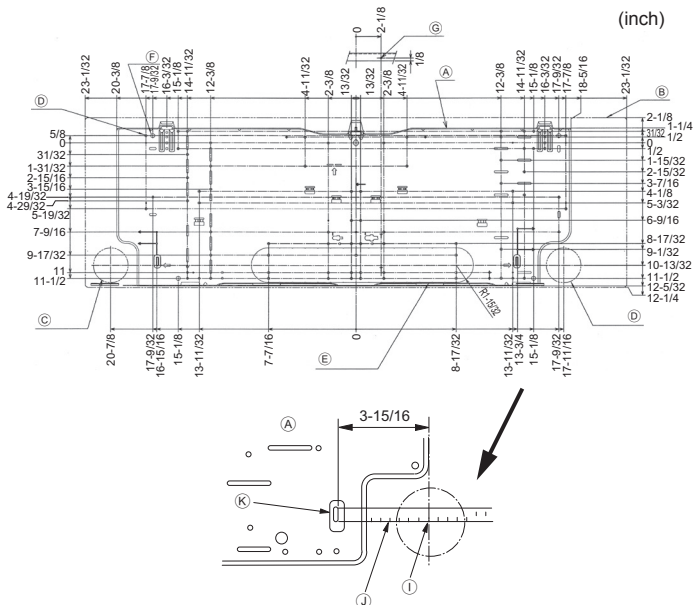

Fig. 3-2
■ PKFY-P-NKMU-E2 (Fig. 3-2)
- Ⓐ Mount board ①